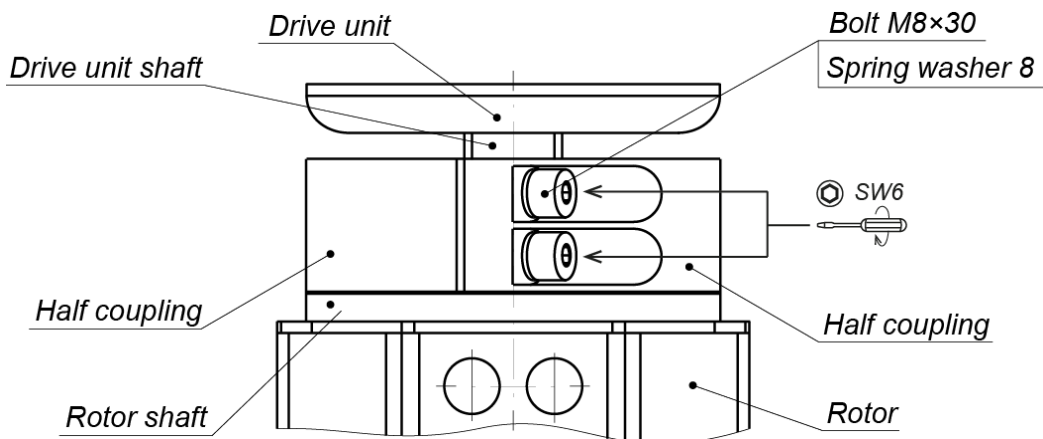

Figure 18. Juncture of the operating mechanism shaft with the rotor shaft by the union joint
- Join together the upper rotor shaft with the shaft of the drive unit of operating device with two half couplings, four bolts M8×30 and spring washers (hex-nut wrench SW6) (Fig.18). Be careful, half couplings are very heavy, do not drop them to avoid injuries!
2. Unscrew 4 bolts M8 from the union joint (4) and take off the half couplings (Fig. 18), Be carefully! Keep the rotor and half couplings from falling down.